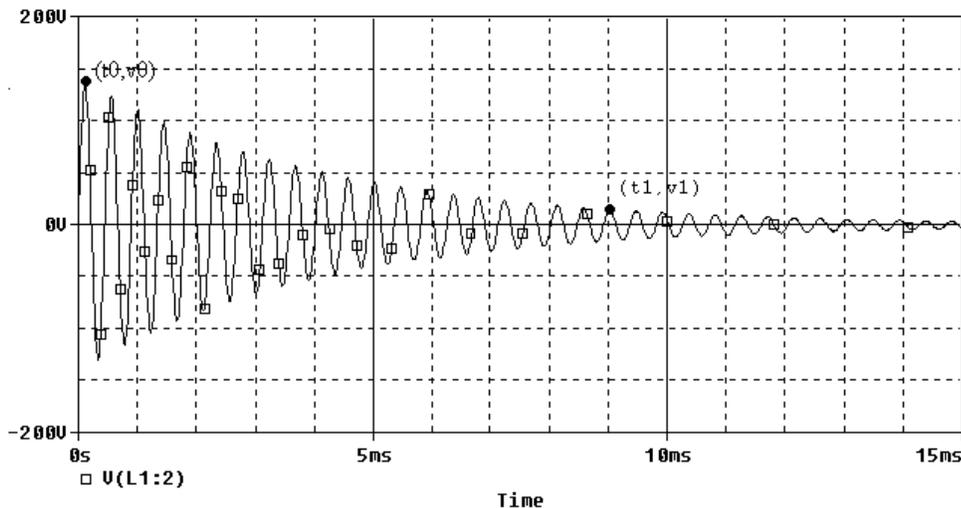

Figure B-4.
*Damped Sinusoids:* The damped sinusoid in Figure B-4 is governed by the equation:  $v(t) = Ce^{-\alpha t} \sin(\omega t)$ , where  $\alpha$  is called the damping constant that determines the rate of decay. To find the damping constant, choose two points at extreme ends of the sinusoid and use the following equation and solve for  $\alpha$ :